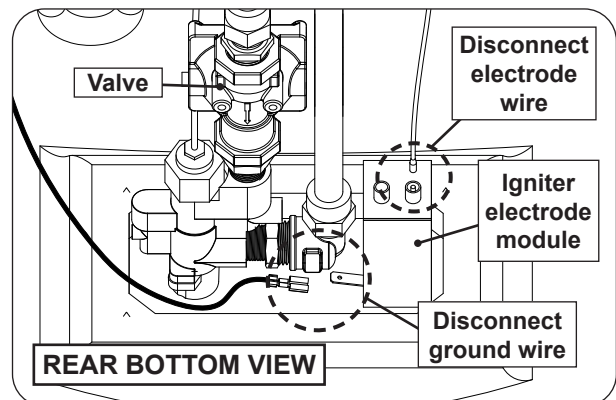

Fig. 32-3 Disconnect wires from electrode module
4. Locate the electrode wire and disconnect it from the round-pin terminal found on the back of the igniter electrode module. Then locate the ground wire and disconnect it from the $\frac{1}{4}$ " quick-connect found on the side of the igniter electrode module (just behind the plate). See Fig. 32-3.